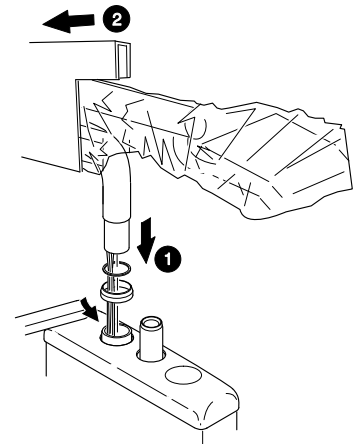

Figure 5: Installing the Arm Assembly
1. Position the thrust washer and the trim collar over the bushing in the end of the mounting post as shown in *Figure 5*.